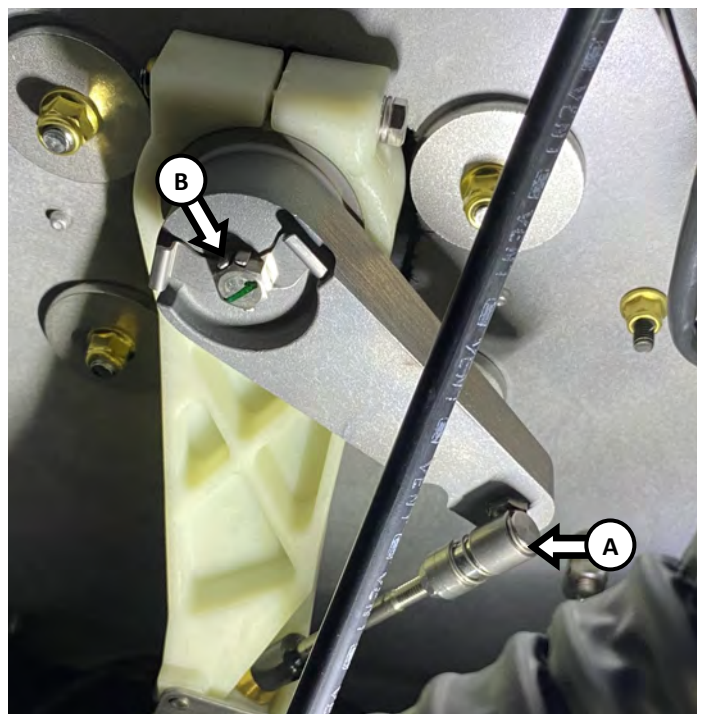

Figure 6
Working inside hull, disconnect steering cable from ball joint on steering arm (A). Pry tabs (3) away from head of bolt securing steering arm to steering shaft (B). Remove bolt and steering arm completely. (See figure 6)